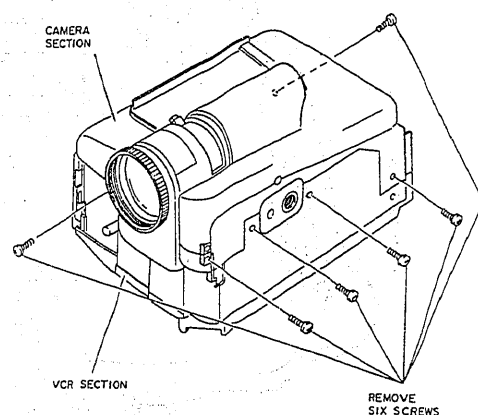

Fig. 2-4
- 1) Remove six (6) screws holding the camera section and VCR section. (See Fig. 2-4)